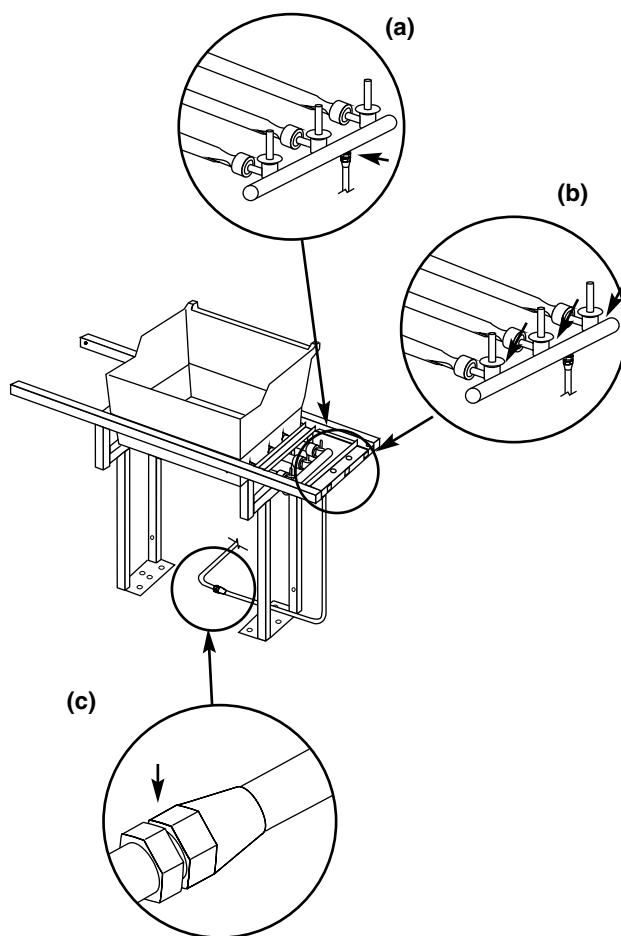

Figure 20
- Gas supply line to manifold connection. Figure 20 (a).
- Valves to manifold connections. Figure 20 (b).
- Barbecue gas supply line to natural gas supply connection. Figure 20 (c).